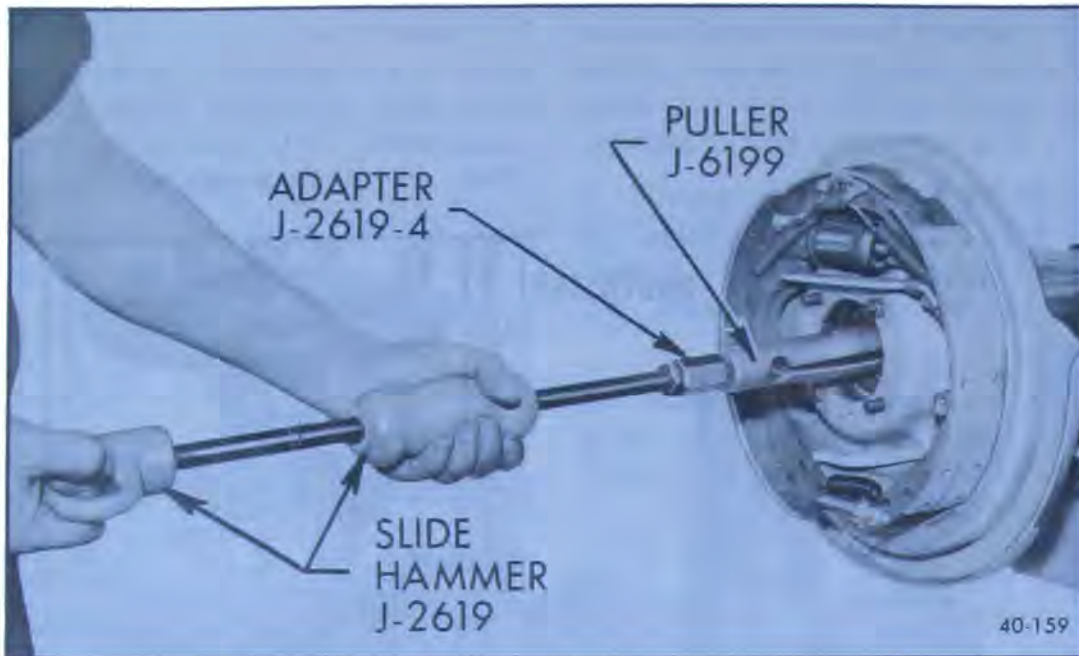

Figure 40-145—Removing Axle Shaft Seal
1. To remove oil seal, insert Puller J-6199 just through seal and expand. Pull seal with slide hammer. See Figure 40-145.